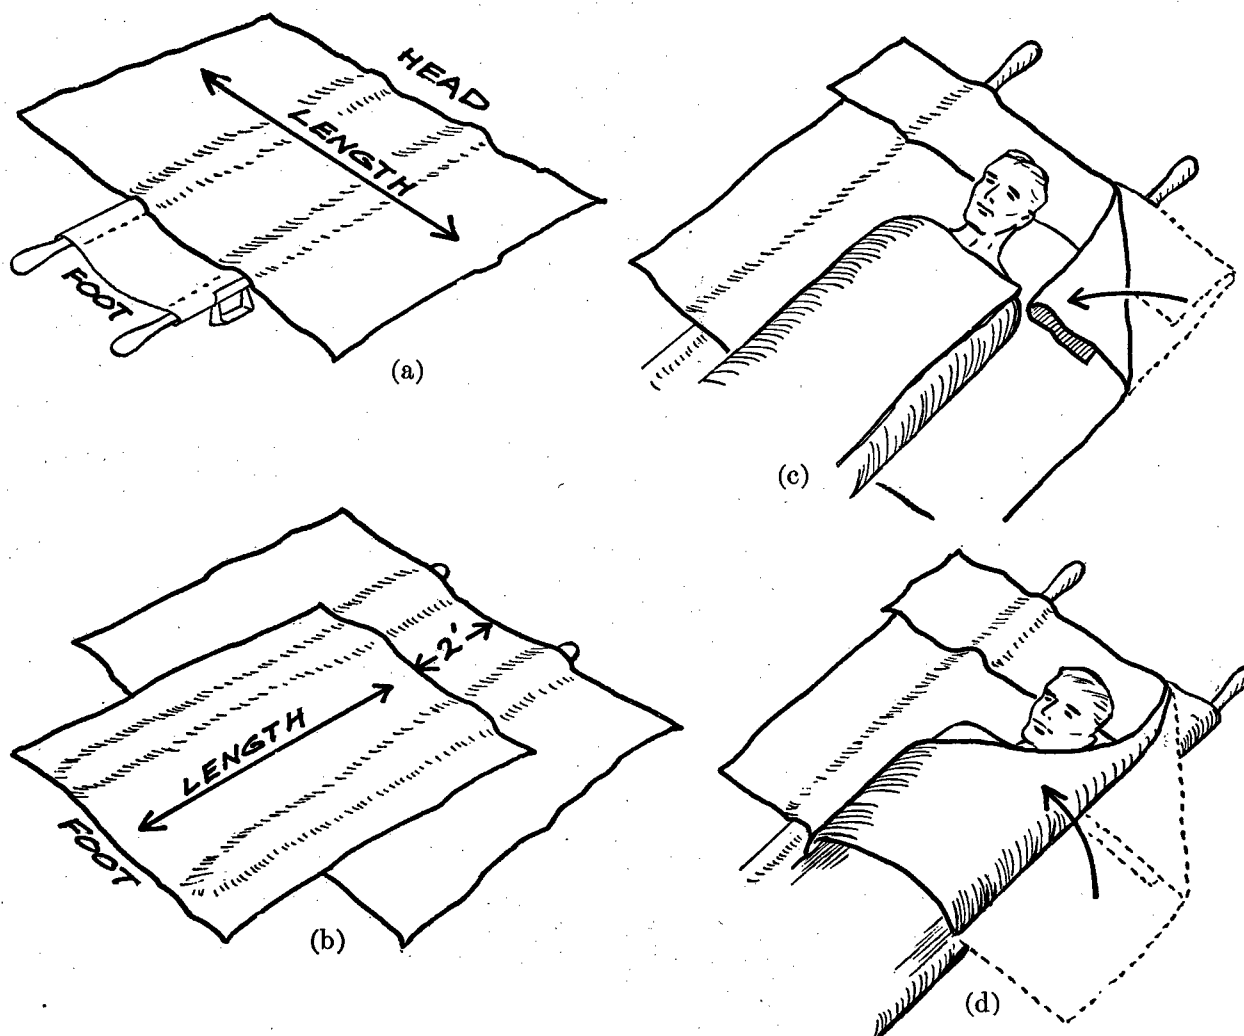

FIGURE 14.—Stretcher blanketing.
2. STEPS	<ol style="list-style-type: none"> 1. Starting at head of stretcher, center first blanket lengthwise across with edge of blanket even with tips of handles. 2. Demonstrate centering second blanket lengthwise with the stretcher about 2 feet from edge of first blanket at head. 3. Place casualty on stretcher. 4. Form cuff over feet. 5. Fold one side of second blanket over body. 6. Fold other side of same blanket over body and tuck in excess. 7. Keep the blanketing as shown in figure 14, a, b, c, d.